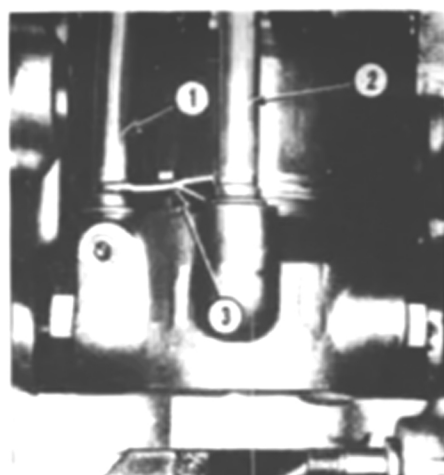

Fig. 115—View showing charge pressure and return tubes attached to center section.
Unbolt retainer (3-Fig. 115) and remove charge tube (2) and center section exhaust tube (1). It may be necessary to tap the tubes forward slightly using a screwdriver and rubber mallet. Rotate tubes to aid in removal. Unbolt and remove the hydrostatic filter assembly (Fig. 116). Then, unbolt the suction pipe (4), push the pipe into the filter compartment and separate suction elbow (2) from the pipe. Remove the elbow first, then the suction pipe.